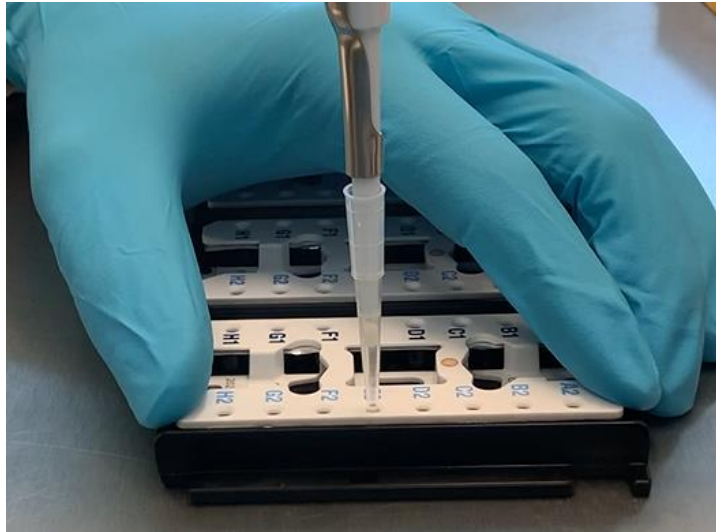

Figure 7: Hold the chip with one hand and your pipette with the other.
- Hold the pipette in one hand. and with the other hand, hold the chip down in the provided Chip Plate. Best practice is to place your index or middle finger at the top end of the chip, and your thumb at the bottom end of the chip (**Figure 7**).
- Hold the multichannel pipette in one hand, and with the other hand, hold the chip down in the provided Chip Plate. Best practice is to place your index or middle finger at the top end of the chip, and your thumb on the bottom end of the chip (**Figure 7**).